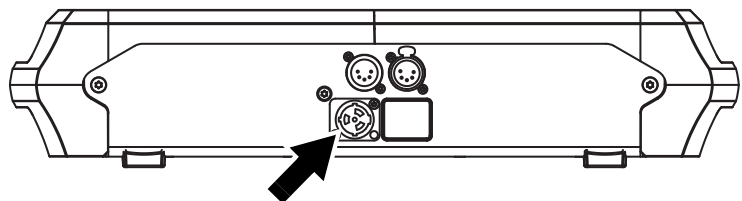

Figure 8: Mains input socket
2. See Figure 8. insert the TRUE1 power connector into the Mains Input socket (arrowed) and twist clockwise to engage.
The MAC Encore™ Performance has 5-pin locking XLR sockets for DMX and RDM input and output (see Figure 8 on page 11). The default pin-out on both sockets is: